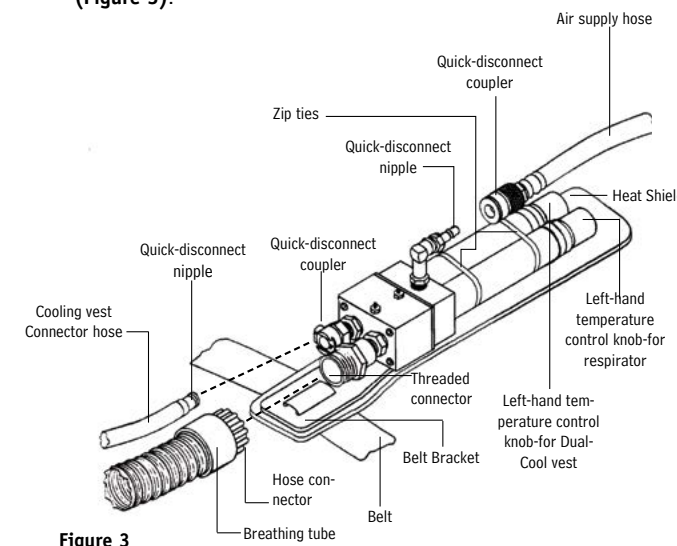

Figure 3
2. Use plastic zip ties (2 included) to secure the climate control to the heat shield. (Figure 3)
1. Screw the hose connector that is on the end of the breathing tube to threaded connector on Dual-Cool. Lace the belt through the slots in the belt bracket (Figure 3).
4. Snap the quick-disconnect nipple found on the end of the cooling vest connector hose into the quick-disconnect coupler on the Dual-Cool (Figure 3).
6. With the approved Bullard air supply hose connected to the breathing air source, and with air flowing into the hose, connect the quick-disconnect coupler on the air supply hose to the quick-disconnect nipple on the Dual-Cool (Figure 3).
1. To obtain cooler air, turn the air temperature control knobs counterclockwise (Figure 3). Maximum cooling is obtained when knobs are open completely and when there is maximum airflow out of the Dual-Cool tube's exhaust ports. To obtain air that is closer to ambient temperature, turn air temperature control knobs clockwise. If knobs are closed completely, your respirator will receive air that is essentially at ambient temperature.
There are separate controls to adjust the temperature of the air that is distributed to the vest and the breathing zone. The right-hand knob controls the air temperature to the respirator; the left-hand knob controls the air temperature to the cooling vest (Figure 3).